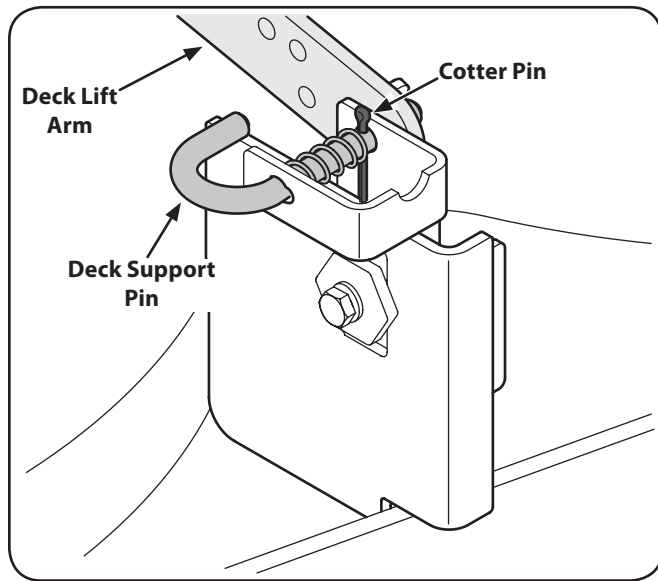

Figure 7-3
- Remove the cotter pin from the deck support pin. See Figure 7-3.
- Pull the deck support pin outward to release the deck from the deck lift arm. See Figure 7-3.
- b. Reconnect the deck lift arms. See Figure 7-3.